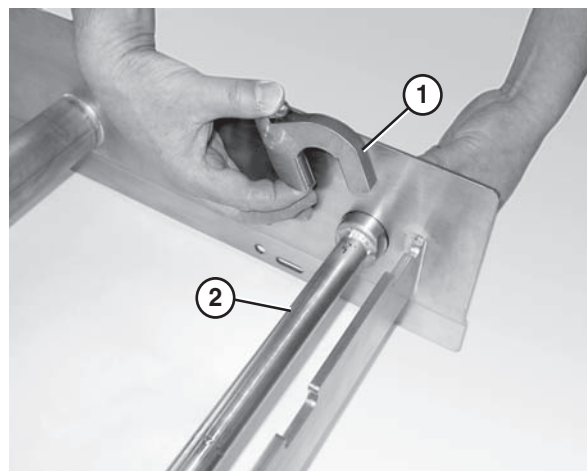

Figure 26
2. Attach the key stops (**Figure 26, item 1**) to the tip up shaft (**Figure 26, item 2**). The rounded end of the key stop should be facing the tail.